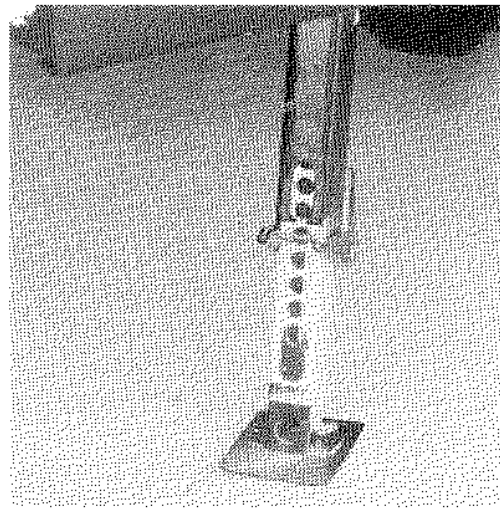

Fig. 4
4. Now release springloaded, self-storing stabilizer jacks. Base of this jack is welded to frame. Using 1 or both hands, grip jack and push toward center of camper approximately 5/8". It will require fair amount of effort to release and swing down as in Fig. 4. Now extend the jack "foot" by pushing it to the ground. More tension can be placed on the jack feet by using the long jack handle supplied in each unit. Be sure that not too much force is applied to the jack handle; it may cause the holes in the jack legs to expand by breaking out the dividers and cause adjustment problems in the entrance door. One notch should be sufficient. **DO NOT** place excessive weight on these jacks as they are intended to stabilize, not bear the weight of the camper.